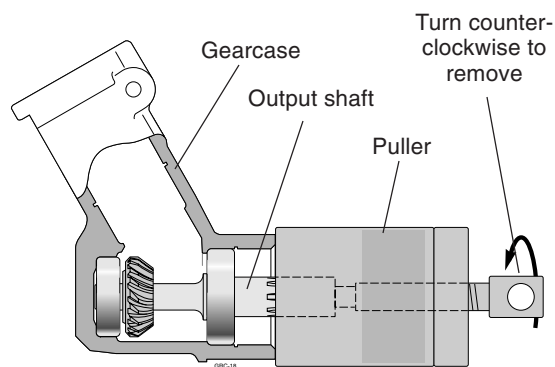

Figure 11.20 Removing the 250 output shaft.
**STEP 2.** Thread the shaft puller bolt into the gearcase output shaft (turn counter-clockwise) until the puller body bottoms against the gearcase (Figure 11.20).